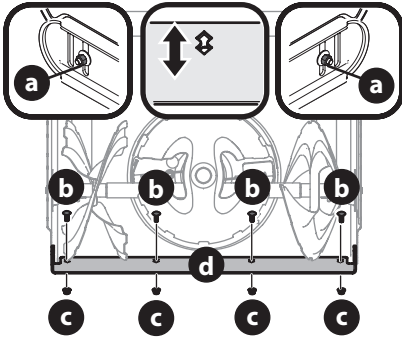

Figure 53
3. Loosen rear skid shoe nuts (a) on both sides of auger housing and remove carriage bolts (b) and hex nuts (c) which attach shave plate (d) to the bottom of the auger housing (Figure 53).
4. Adjust the shave plate to one of 2 mounting positions. Reinstall and securely tighten all carriage bolts, nuts and skid shoe hardware from Step 3 (Figure 53).